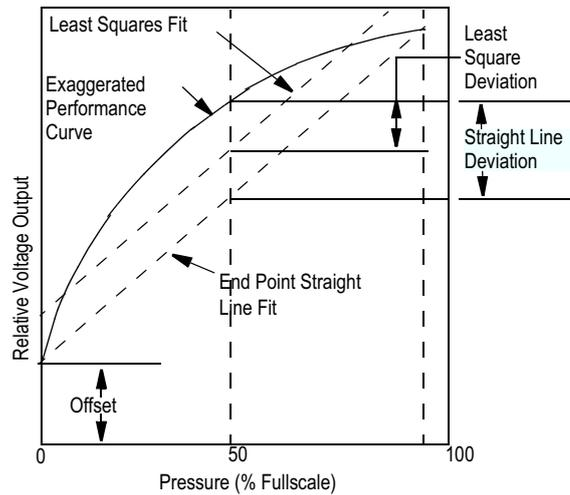

Figure 2. Linearity Specification Comparison
Linearity refers to how well a transducer's output follows the equation: $V_{OUT} = V_{OFF} + \text{sensitivity} \times P$ over the operating pressure range. There are two basic methods for calculating nonlinearity: (1) end point straight line fit (see Figure 2) or (2) a least squares best line fit. While a least squares fit gives the "best case" linearity error (lower numerical value), the calculations required are burdensome.